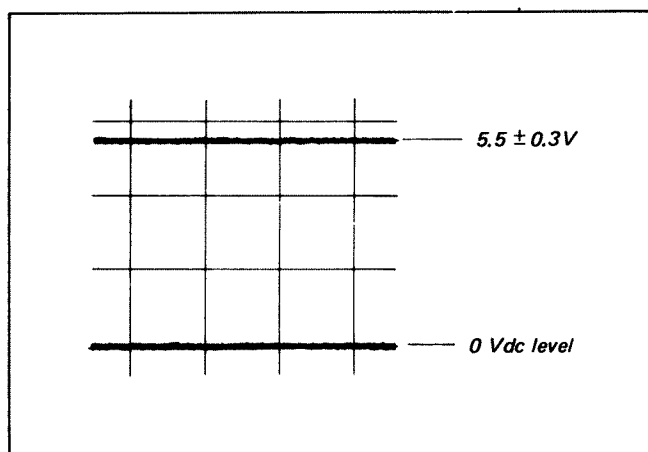

Fig. 4-13. Capstan free speed adjustment
- (5) Connect the oscilloscope to TP5. Input: dc range
- (6) Adjust RV5 for a dc level of $5.5V \pm 0.3V$. (See Fig. 4-13.)
- (7) Set the TAPE SPEED switch to β II, β III.
- (8) Record the telecast signal in the β III mode and adjust RV4 for $5.5V \pm 0.3V$. (See Fig. 4-13.)
- (9) Record the telecast signal in the β II mode and adjust RV11 for $5.5V \pm 0.3V$.
- (10) Play back the β II mode of the alignment tape (color-bar or monoscope) with FAST PLAY button pushed and adjust RV10 for $5.5V \pm 0.3V$.